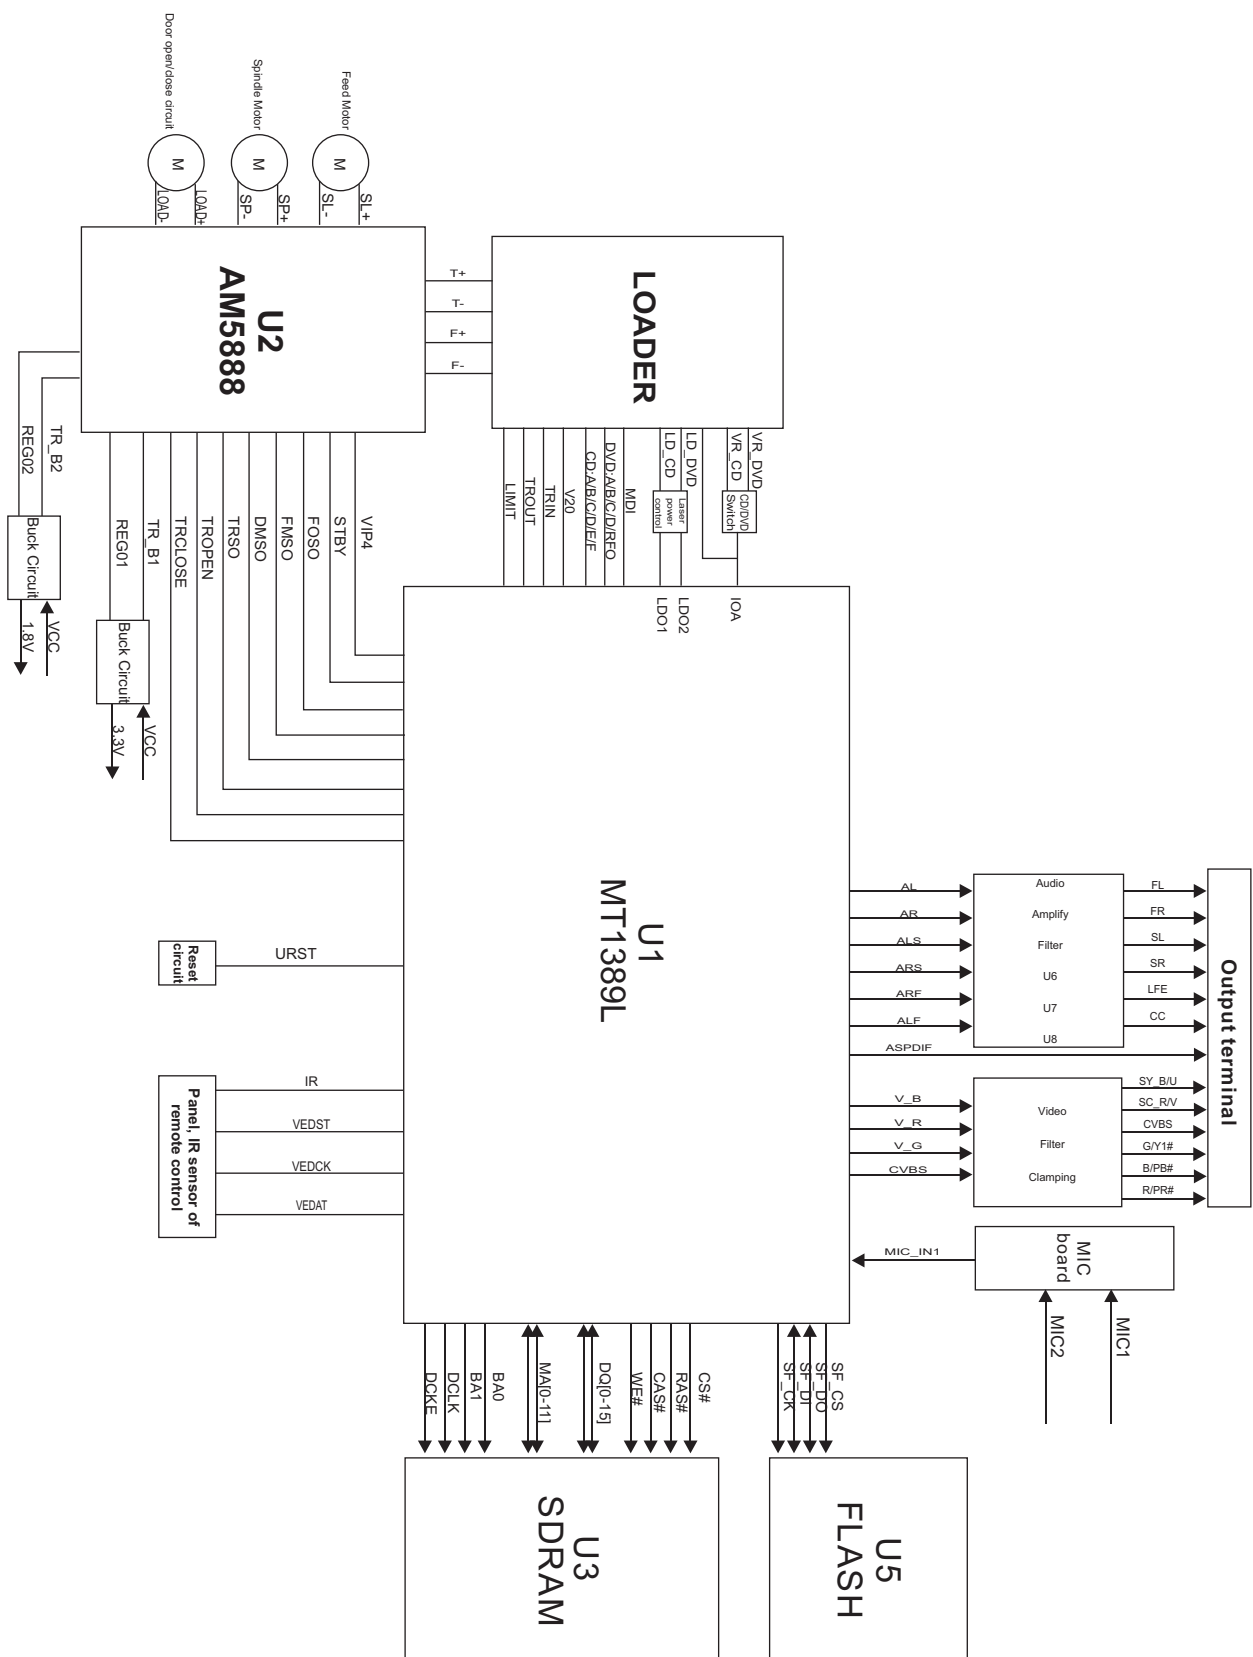

Figure 3.2.1 Block diagram of DV8 Series
Block diagram for DV812X(RU), DV815X(RU), DV823X(RU) & DV826X(RU) machine is shown in figure 3.2.1.